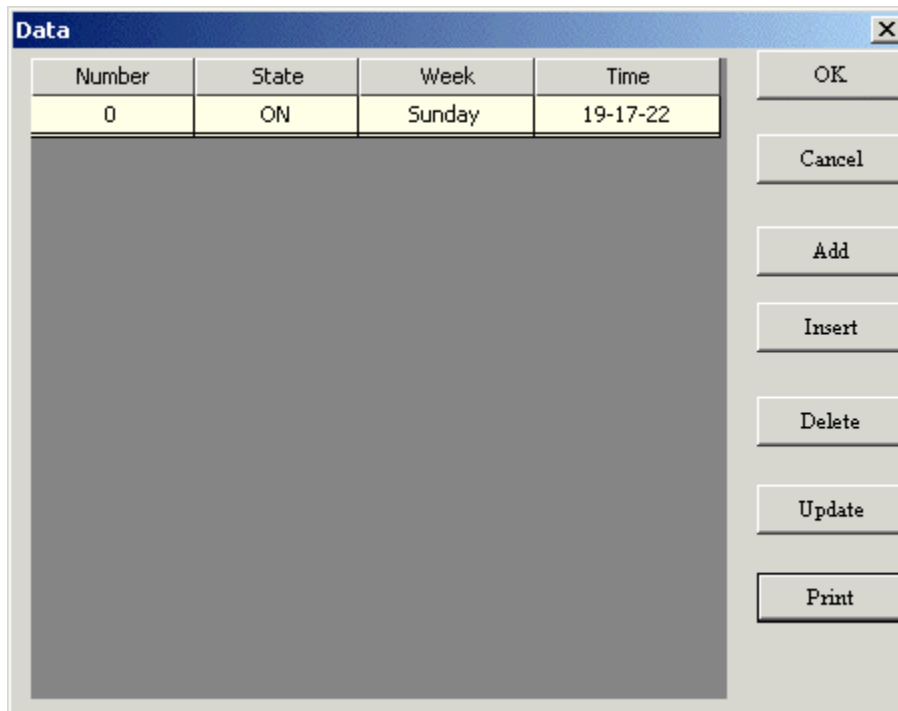

Fig. 6.8
You can set a time point for DW block in Quick II very easily (see the Fig. 6.8).
**Add:** To add a time, please click *<Add>* button and a dialogue box will appear, as shown in Fig. 6.8.